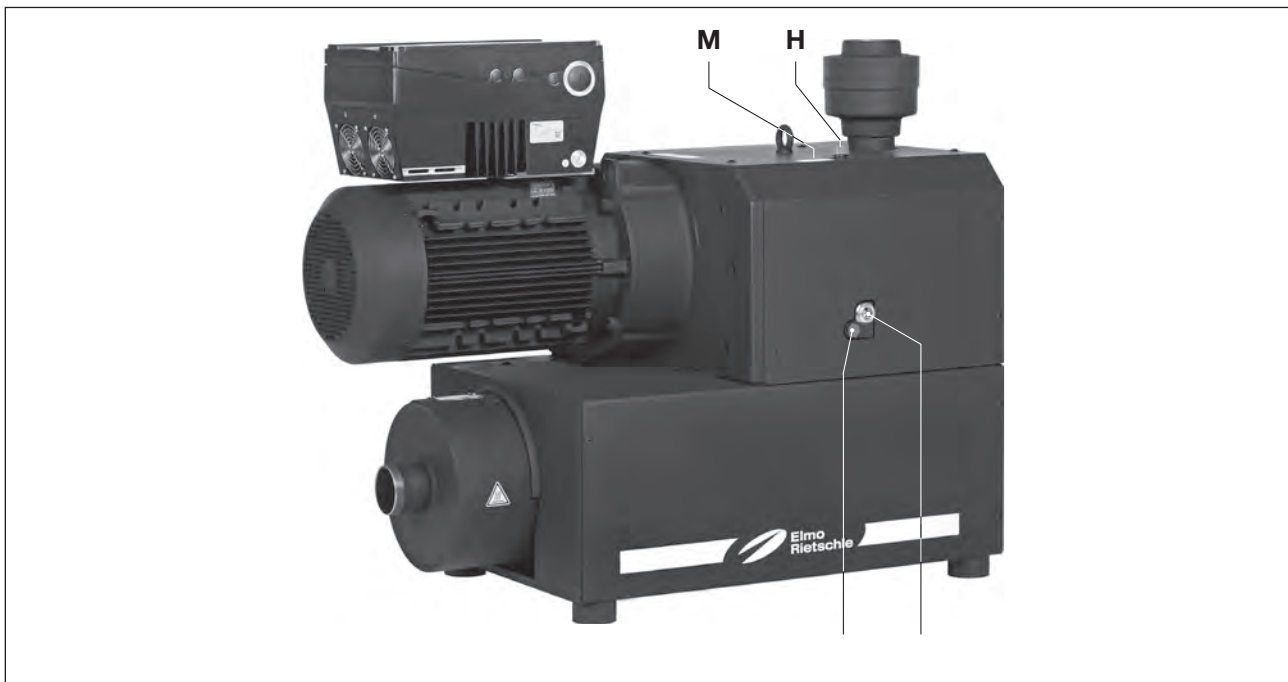

Fig. 5 Changing the oil
The oil level in the sight glasses (Fig. 5/I) must be checked every month.
*We recommend the following oil brand: GEAR-LUBE 150 or equivalent oils by other manufacturers (also see oil recommendation plate (Fig. 5/M)).*